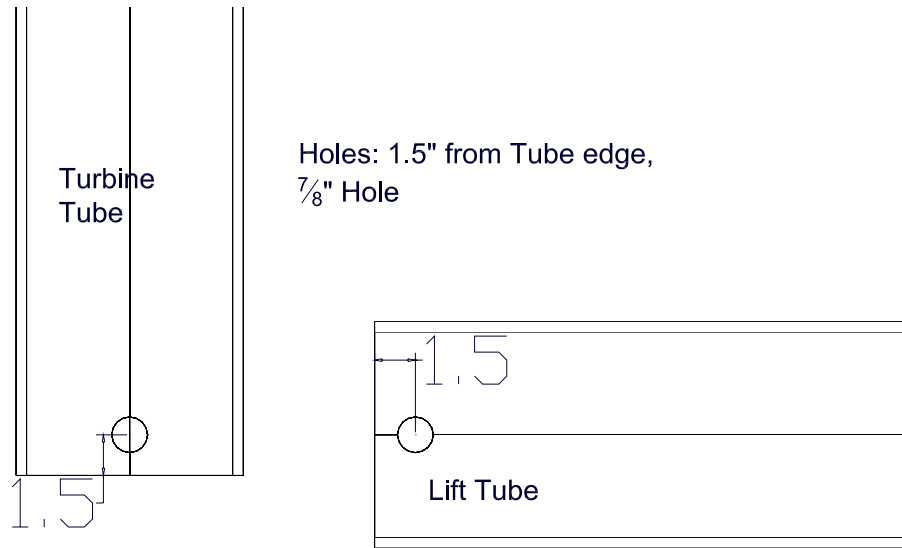

Figure 3.2: Base Anchor Detail View
- Drill a hole through the tower and lift-pole bottom sections, as shown in Figure 3.2.